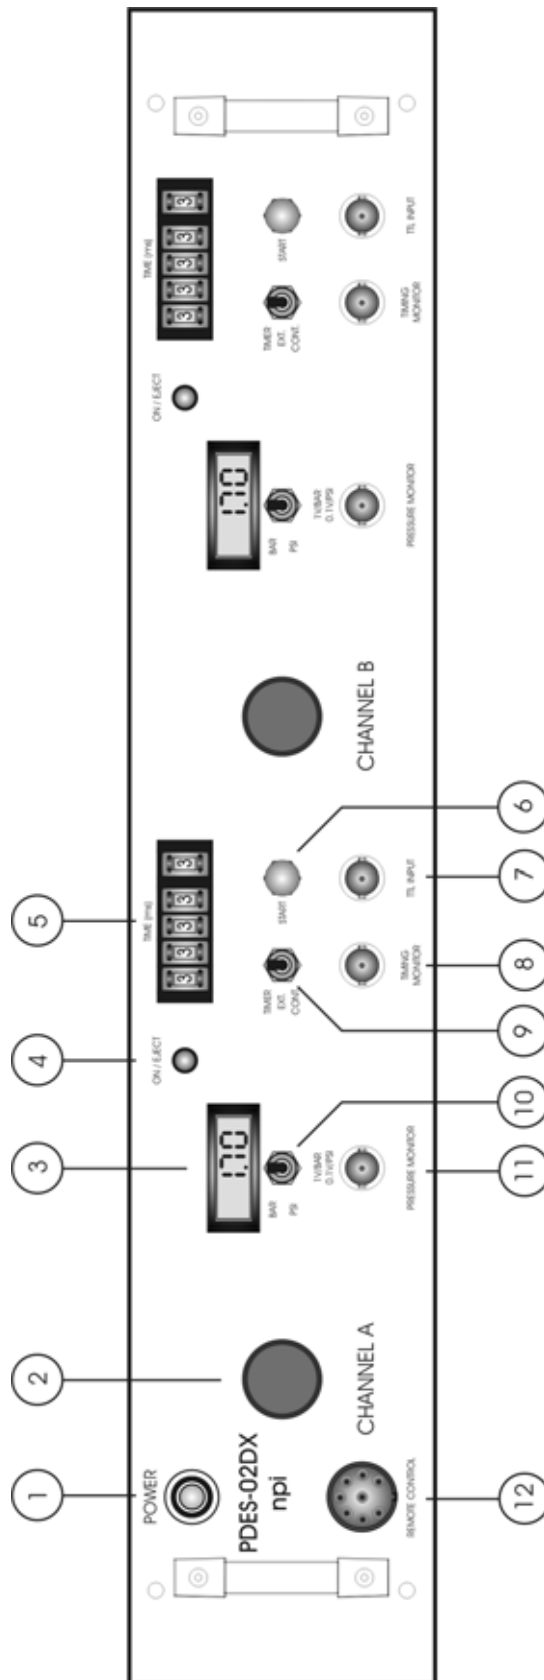

Figure 1: PDES-2DX front panel view (the numbers are related to those in the text below)
In the following description of the front panel elements, each element has a number that is related to that in Figure 1. The number is followed by the name (in uppercase letters) written on the front panel and the type of the element (in lowercase letters). Then, a short description of the element is given. Since the front panel elements are identical for each channel (with identical functions and labels) and therefore, are numbered and described only once (for channel A).
- ☐ Select the operation mode using the respective toggle switch at the front panel (see Figure 1).
- ❑ Use the START button to test the system. The START button can be used to start ejection in TIMER or EXT. mode. In TIMER mode pushing the START button starts ejection for the time set by the timer control (#5, Figure 1). In EXT. mode ejection lasts as long as the START button is pushed.